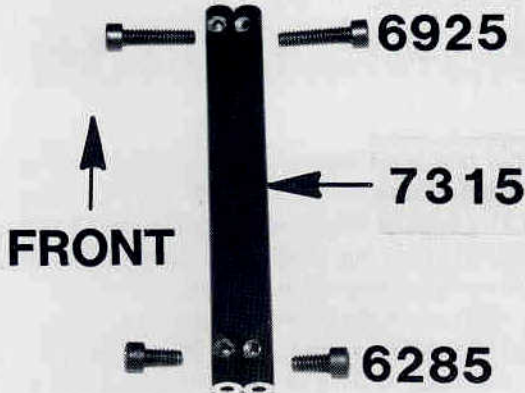

Fig. 36
□ **Figs. 36 & 37** From bag 7-4 remove the two #7315 black anodized nose brace tubes. Remove two #6925 4-40 x 1/2" SHCScrews and #6285 4-40 x 1/4" SHCScrews. Install the tubes so the unthreaded screw holes (closest to one end of the tube) will be installed towards the front of the truck.
(1) Slip the unthreaded hole end through the oval shaped hole on the passenger side of the fiberglass shock strut. Align the hole in the tube with the hole in the saddle of the front bulkhead.
(2) Install one of the #6925 4/40 x 1/2" SHCScrews in the front hole but do not tighten it down all the way. (3) Now line up the back hole in the nose brace tube with the hole in the chassis. Install one #6285 4/40 x 1/4" SHCScrew from the outside as shown. Do not completely tighten down the screw. (4) Now repeat the above steps for the nose brace tube on the drivers side. After both tubes and their screws have been installed you can tighten all four screws. Be sure not to overtighten the screws.